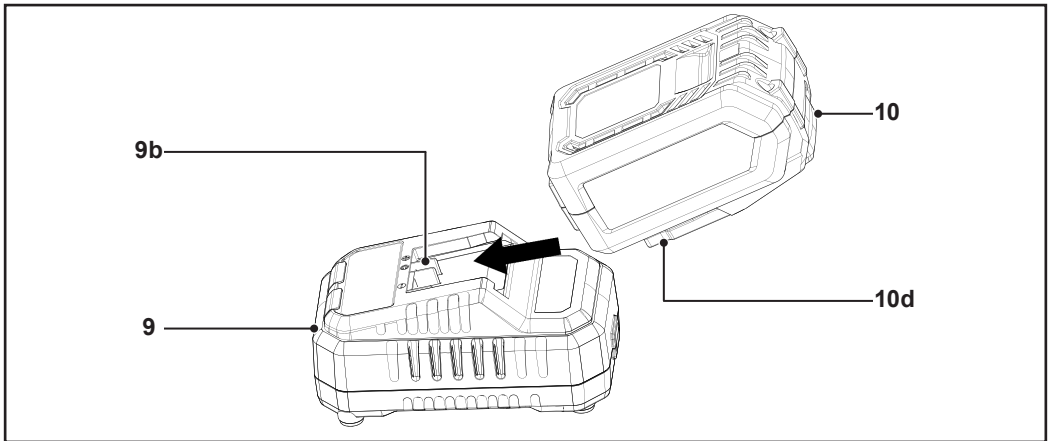

Fig. 2
1. Connect the mains plug (9c) of the battery charger (9) to a suitable mains outlet. The LED indicator (9a) lights up.
2. Slide the battery pack (10) into the battery charger (9). The charging contacts (10d) have to engage into the battery pack intake (9b) (Fig. 2). The charging cycle begins and the battery capacity indicator (10b) flashes green.
3. Once charging is complete, the battery capacity indicator (10b) becomes green. Remove the battery pack (10) from the battery charger (9).